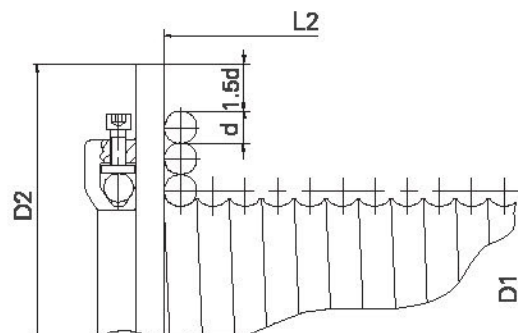

Figure 5
4.4 The computing formula between drum and rope (figure 5):